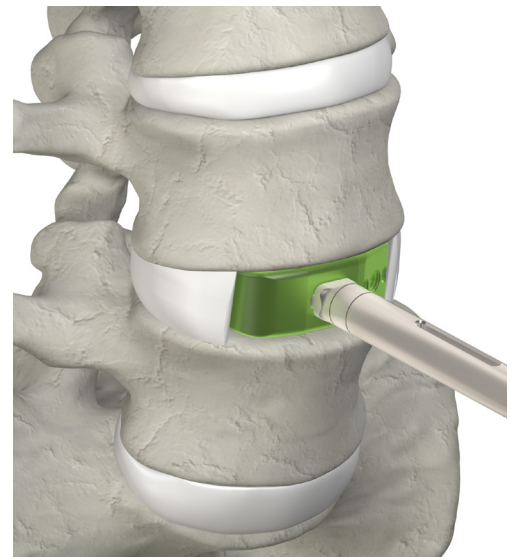

Figure 4
- ▲ Carefully impact the sizer into the disc space (Fig. 4). Check the correct fit of the sizer with the aid of fluoroscopy and palpation.